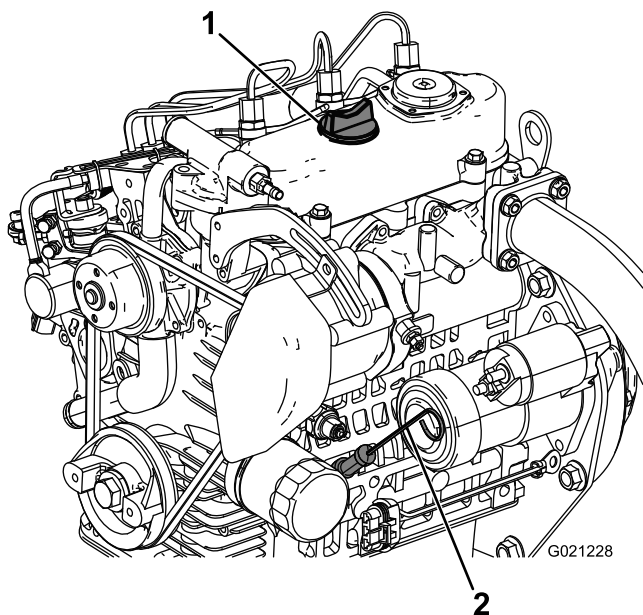

Figure 13
2. Remove the dipstick (Figure 13) and wipe it with a clean rag. Insert the dipstick into the tube and make sure it is seated fully. Remove dipstick and check the level of the oil.
3. If the oil level is low, remove the filler cap (Figure 13) and add enough oil to raise the level to the Full mark on the dipstick.